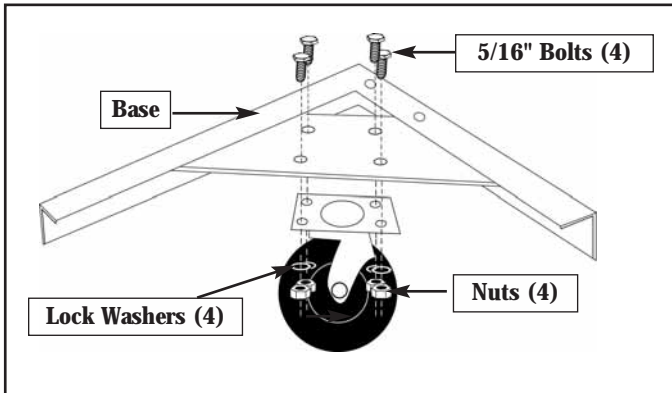

Figure 2. Installing Casters.
4. Insert four 5/16" bolts through the aligned holes in the base and caster. Bolt threads should be on the caster side of the base (Figure 2).